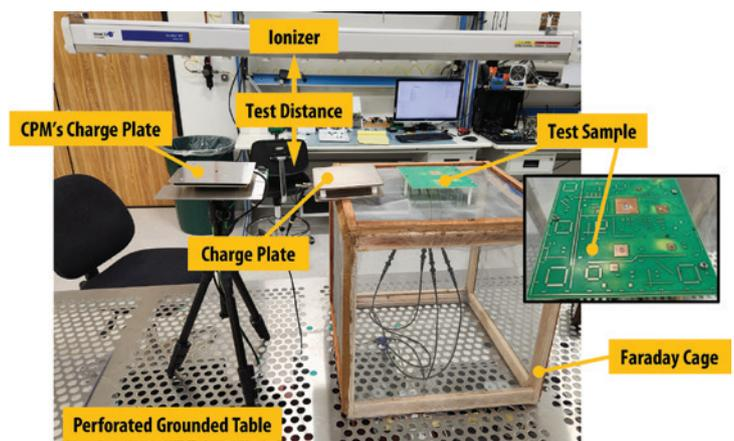

Figure 1: Test setup showing CPM's charge plate, charge plate, Faraday Cage, and test sample
The experimental setup consisted of two ionizers, Model 5645 MP (AC) and Model 5225 (DC) ionizing bars, suspended above a perforated table, as shown in Figure 1.